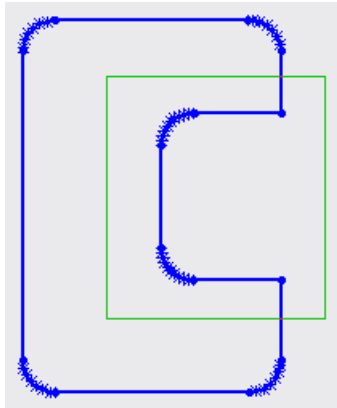

Figure 1
8. Zoom up and window pick the sketch as shown in Figure 1.